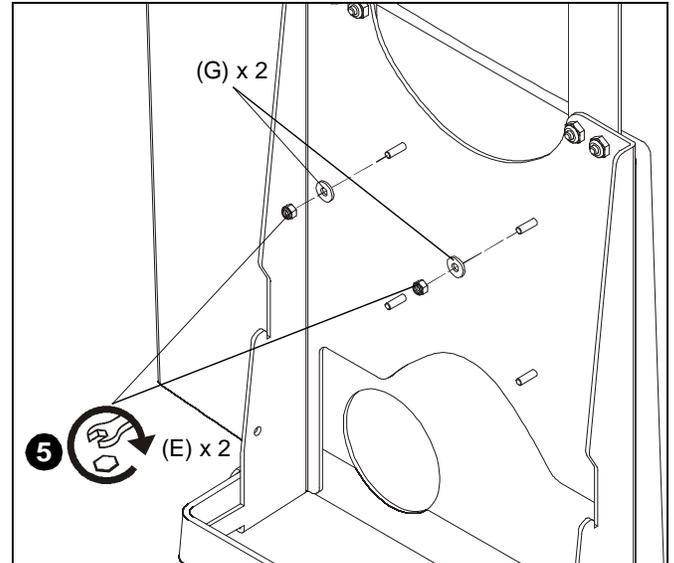

Figure 3
5. Attach two M4 locknuts (E) and two M4 washers (G) to top two studs on back of interface bracket (A). Thread nuts completely onto studs and then back out three complete turns. (See Figure 3)